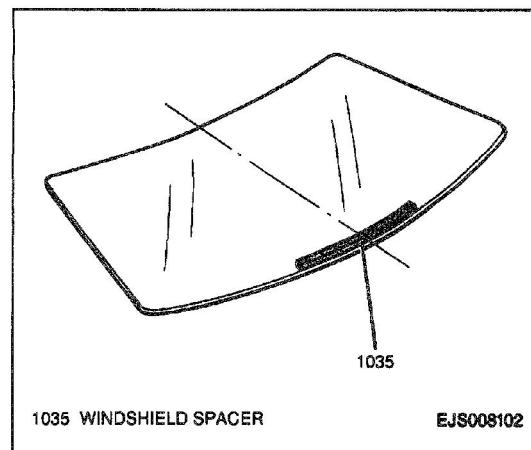

Figure 9—Windshield Spacer
2. Peel paper from one side of new windshield spacer and attach to windshield (Figure 9).